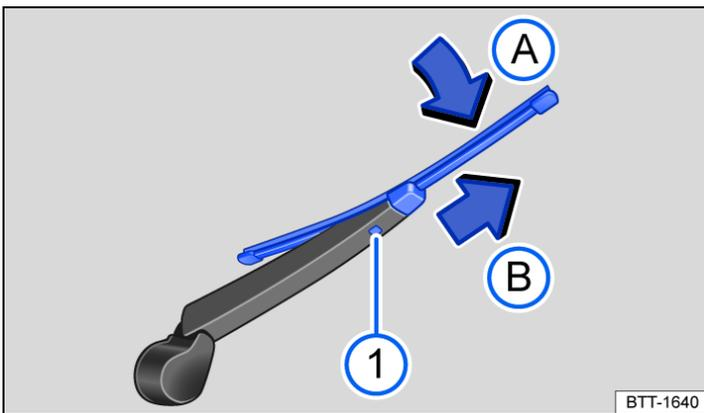

Fig. 2 Changing the rear window wiper blade.
- Press and hold the release button → Fig. 2 ①.